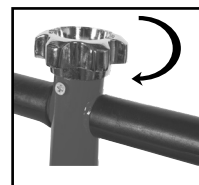

Fig. 15
- Slowly turn the release knob (1) counter-clockwise to lower the vehicle onto the jack stands (Fig 15).